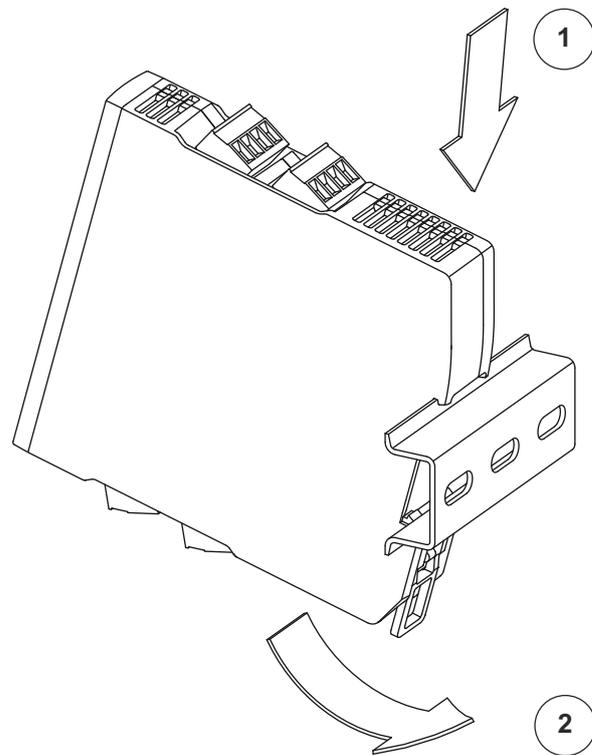

Figure 58: Mount the safety relay on the DIN rail.
2. Hang the top rear side of the safety relay on the DIN rail. See **Figure 58** (1).
3. Push the bottom rear side of the safety relay on the DIN rail until you hear a click. See **Figure 58** (2).